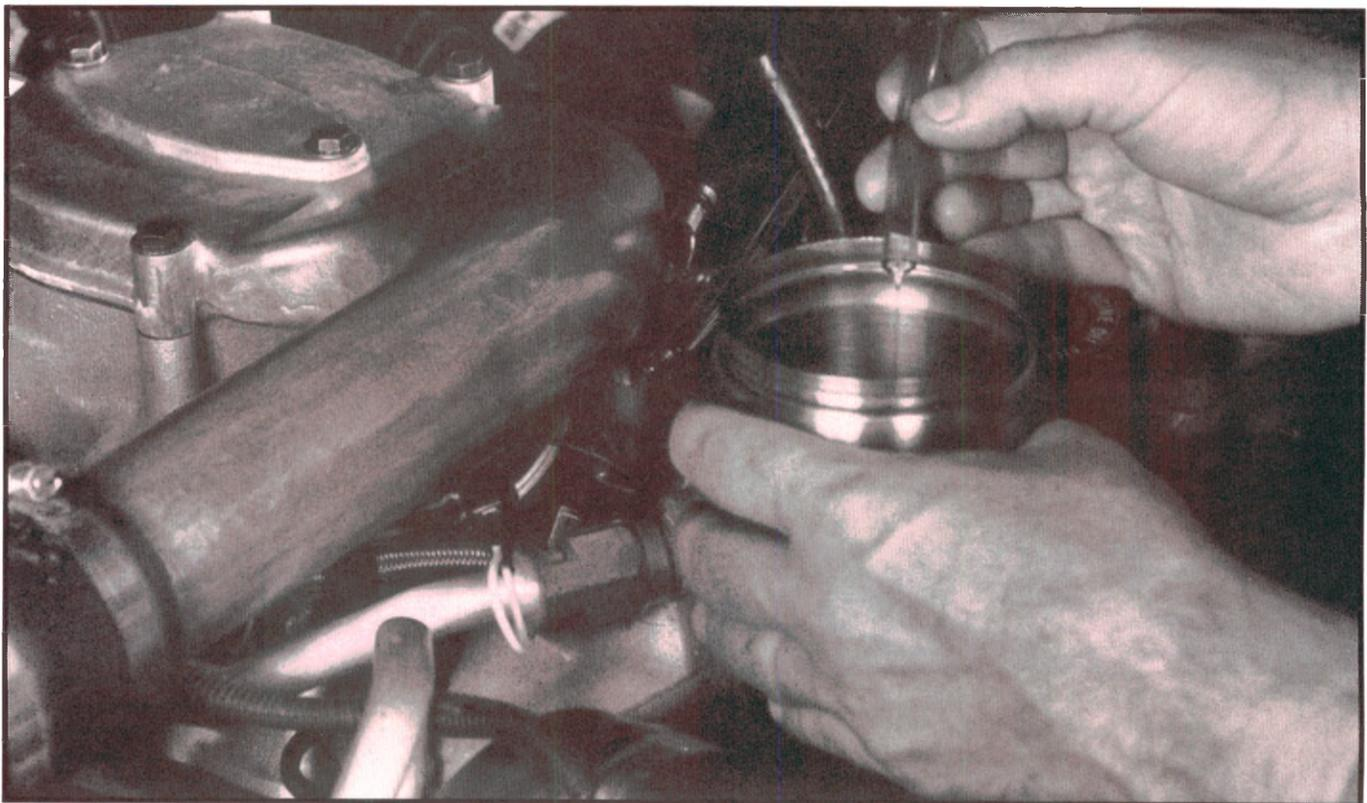

Figure 4-11, Fuel System Cleaning (1 of 2)
O. Connect the batteries and crank the engine until clean fuel flows from the fuel filter outlet into a metal container (figure 4-11):
- T. Start and run the engine for 15 minutes while fuel flows from the fuel return line into a metal container (figure 4-11).